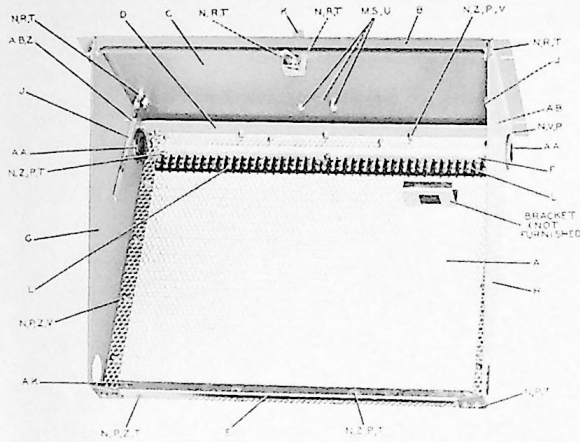

Figure 2-3. 499G-1 Rack Mounting Shelf, Shelf Assembly
2.2.3.4 FINAL ASSEMBLY. (See figure 2-3.) In the final assembly procedure, all bolts will be allowed to remain in a loose condition until the unit is completely assembled; then the parts will be brought into alignment, and the bolts tightened.